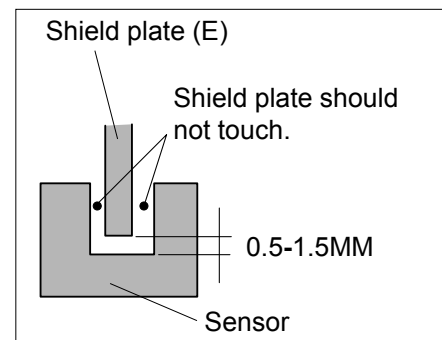

Fig. 1
3. Remove the machine base. Loosen the setscrew (D) and turn the shield plate (E) until the "Bsen" on the LCD changes from [L] to [H] and buzzer sound. Tighten the setscrew (D).
4. Set the right side surface of the shield plate to the center of the sensor as shown in the Fig. 1 and tighten the setscrew (G)
When the number 8 is sewn 5 times with the stretch stitch balance dial (C) at the setting mark (D), the measurement should be between 32 and 38mm as shown in Fig. 1.